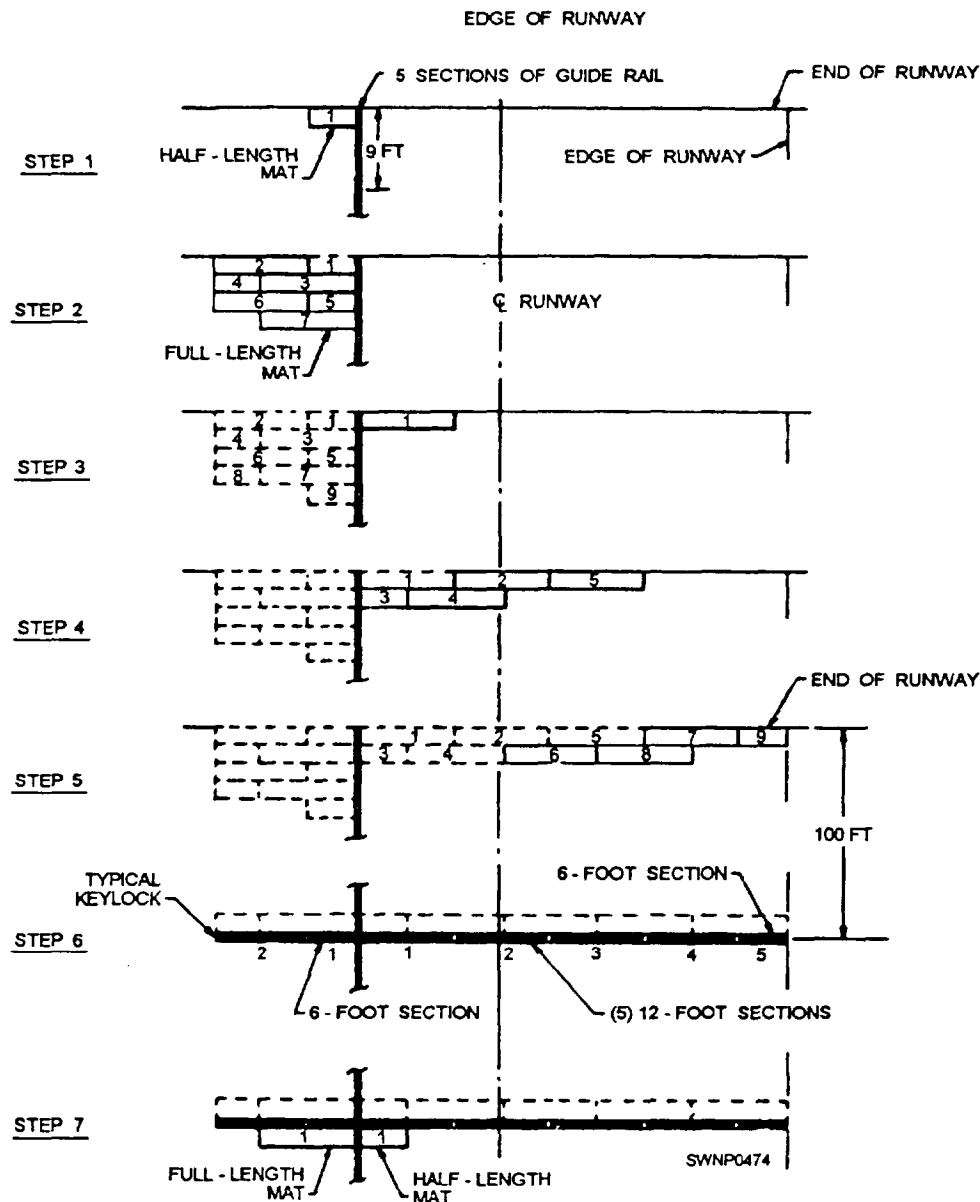
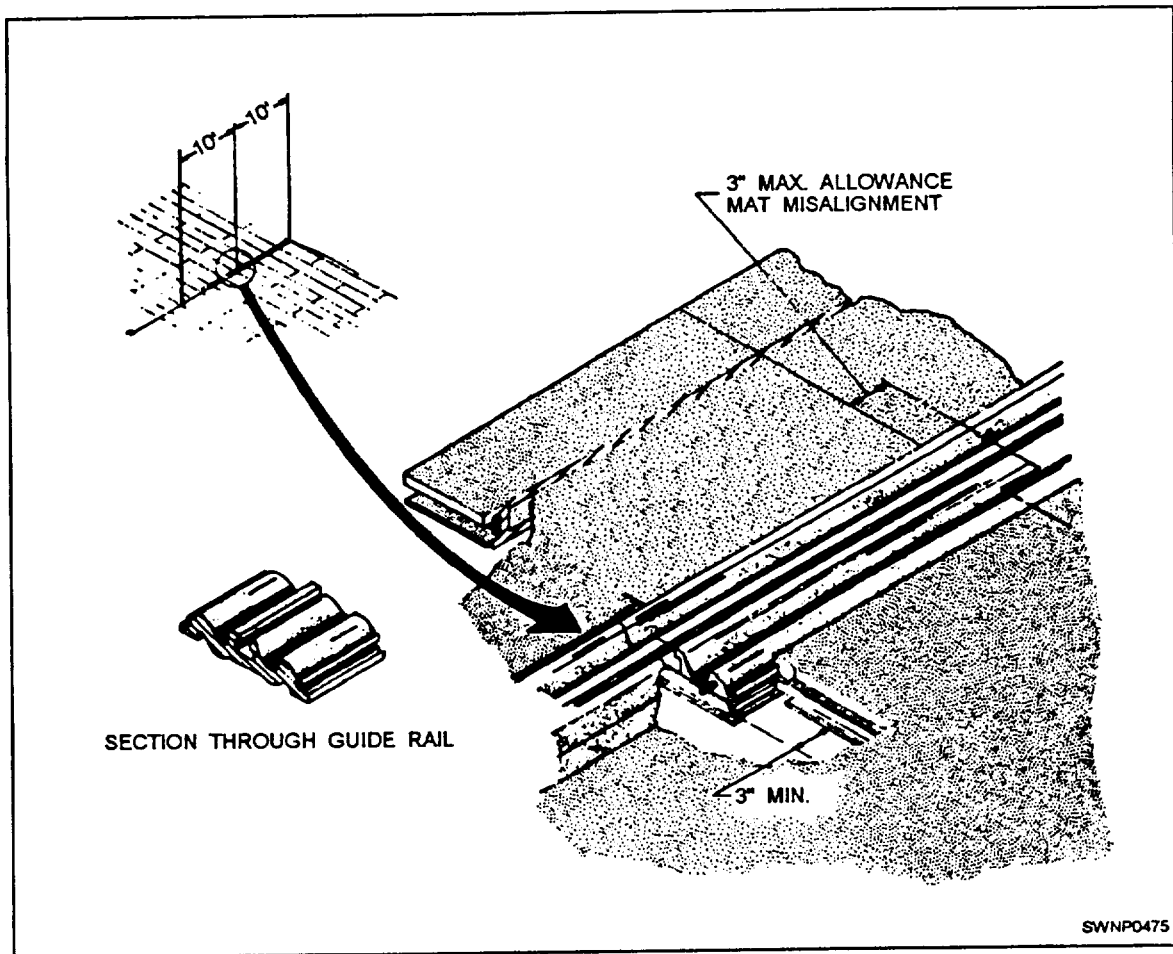

Figure 11-22.—AM-2 mat installation sequence (with guide rails—96-foot-wide runway).
Figure 11-23.—Laying of guide rails and mats.
The sequence for installing AM-2 mats and related components where a guide rail for a catapult system is required is shown in figure 11-22. The guide rail divides the runway into an 18-foot and a 78-foot
5. Lay the 18-foot section of AM-2 matting, as shown in figure 11-22. Insert the mat-locking bars between the guide rail and the mat. (See fig. 11-23.)
8. Install the next five guide rails. Guide rail joints should never be closer than 3 inches in reference to the transverse mat joints. (See fig. 11-23.) To ensure the 3-inch distance between the mat and guide rail joints,